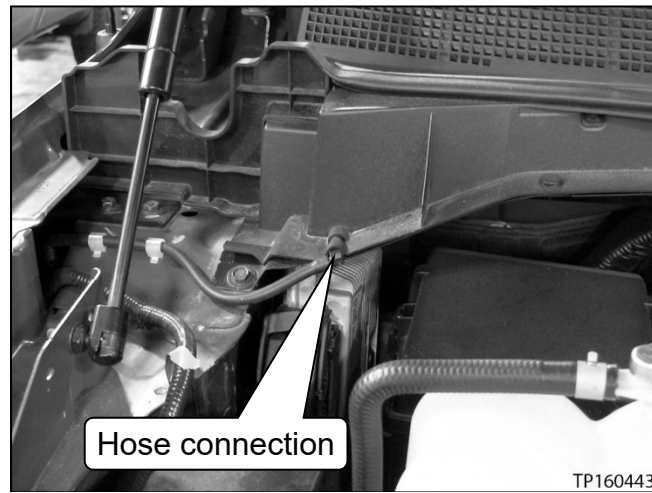

Figure 117
- e. Connect the washer nozzle supply hose (see Figure 117).